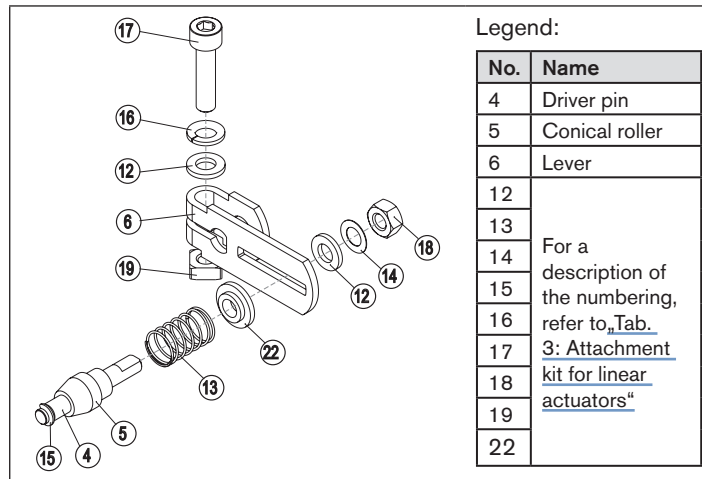

Fig. 7: Assembling the lever
- Assemble lever (if not pre-assembled) (see „Fig. 7“).